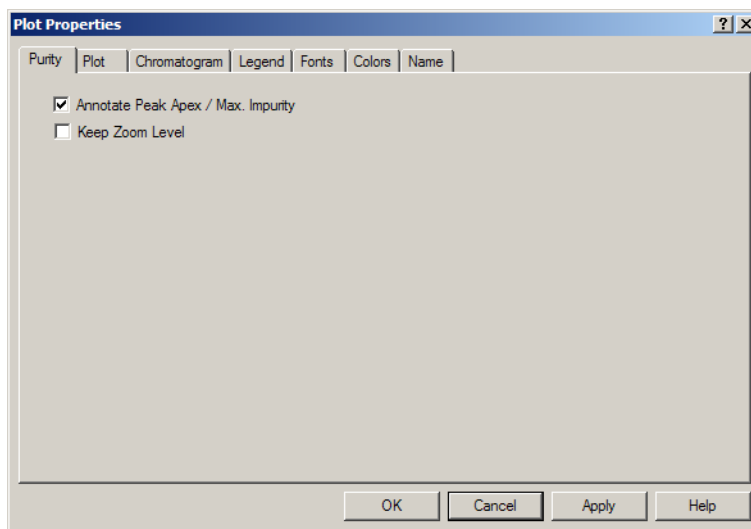

Figure 3-30 Plot Properties Dialog Box
5. Right-click the Purity plot, then select **Properties** to open the Plot Properties dialog box (Figure 3-30).